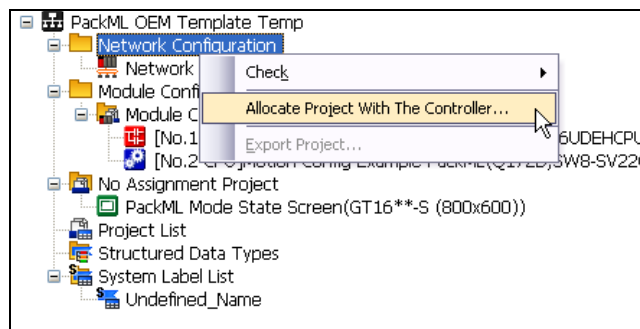
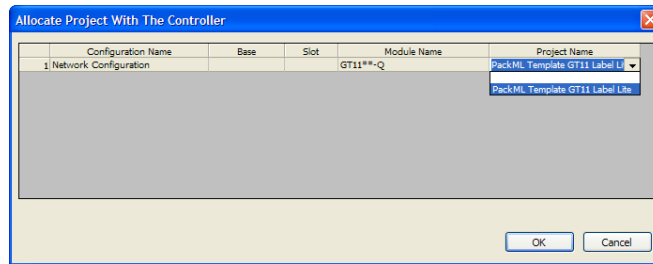

Figure 13 – Allocating Project to GOT on the Network
Figure 14 – Allocating GOT Program
- a. Similar procedures can be followed to add the GOT program to the configured GOT in the system as shown in Figure 13 and Figure 14.